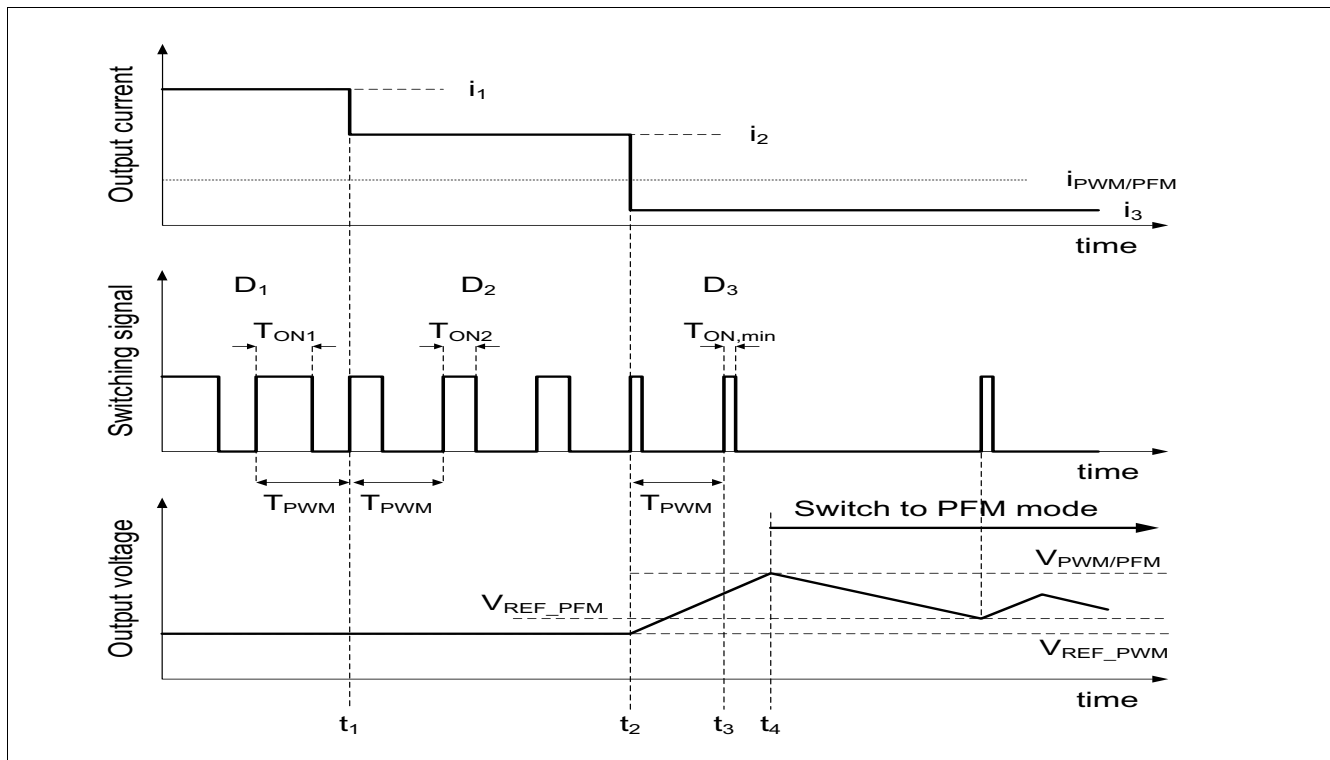

Figure 4 PWM to PFM transition (timing diagram)
**Figure 4** shows the transition from Pulse Width Modulation to Pulse Frequency Modulation under the assumption, that the input voltage  $V_S$  will be constant and only the output current  $I_{CC}$  will vary. The diagram shows the principle, in reality the signals might look slightly different. The diagram is without scale in respect of time, voltage and current values.